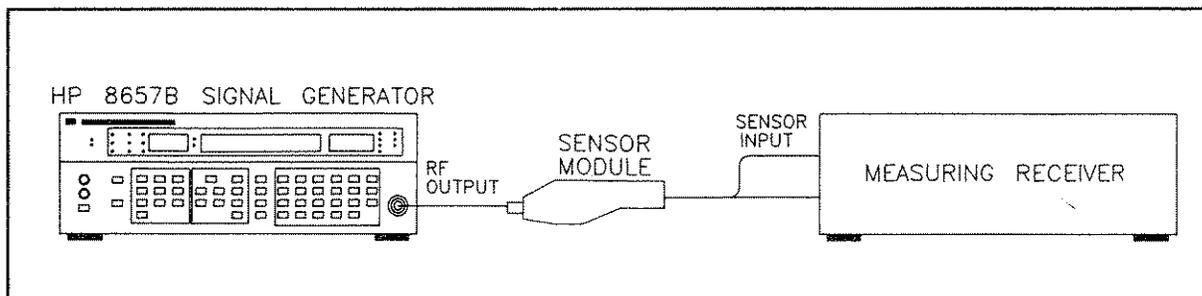

Figure 4-6. Output Level Accuracy and Flatness Test Setup
2. Connect the sensor module to the HP 8657B as shown in Figure 4-6.